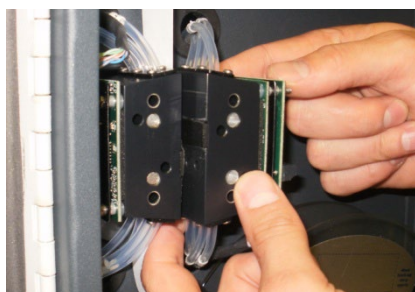

Figure 2
- 4) Pull block towards you until the pins holding the block in are loose (Figure 2)